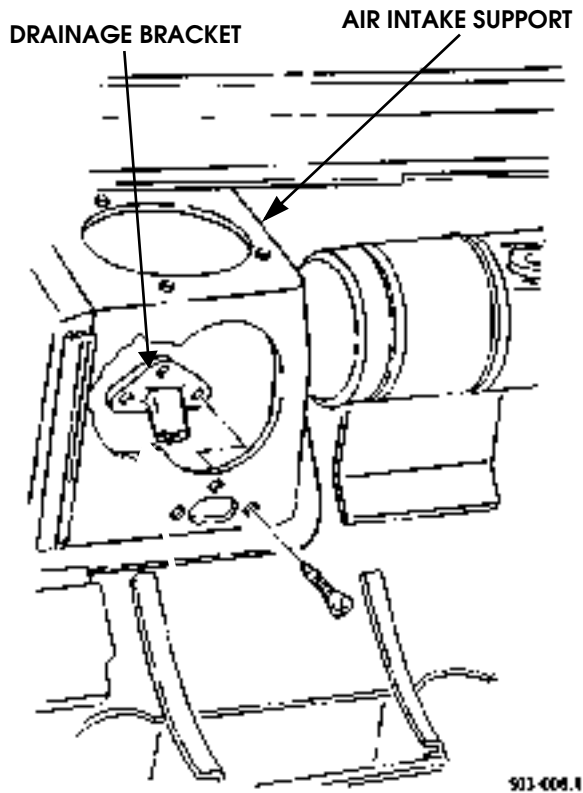

Figure 3-29: Drainage Bracket Location
2. Remove three screws and drainage bracket from body (Figure 3-29).
1. Position drainage bracket on body and install bracket screws (Figure 3-29).